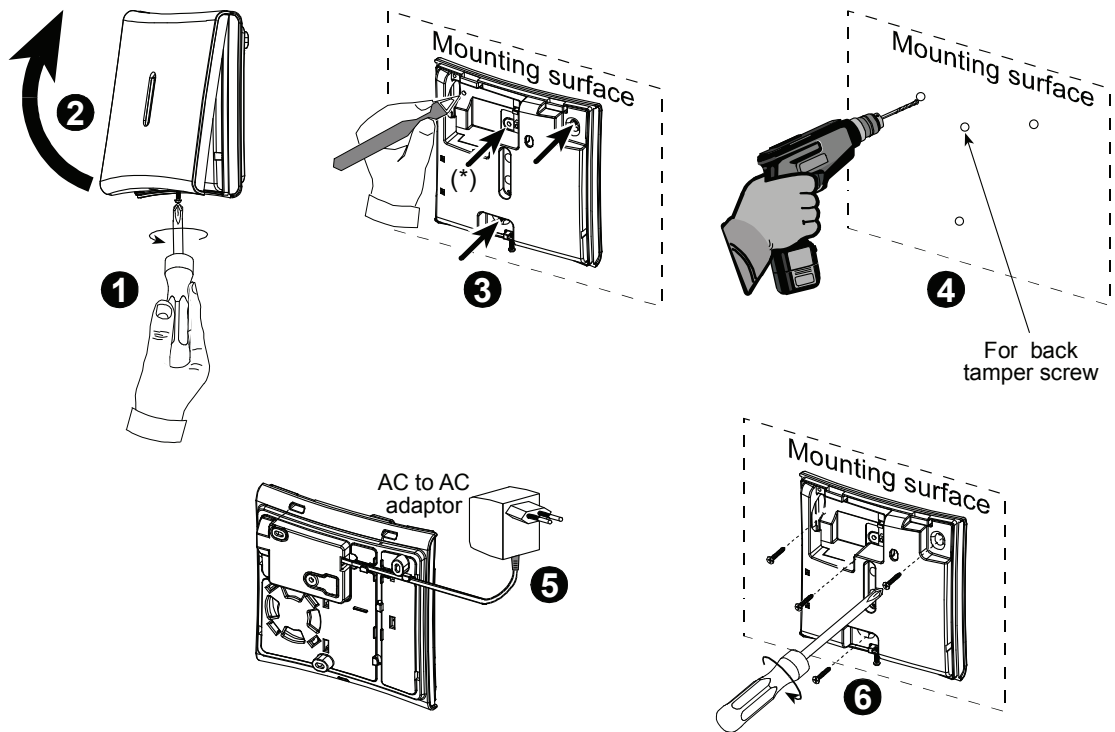

Figure 3 - Installation
- Mount the repeater in the selected location as shown in Figure 3.
This function allows you to test the signal strength of the enrolled devices as seen by the repeater. Before testing, separate the base from the cover (see Fig. 3).